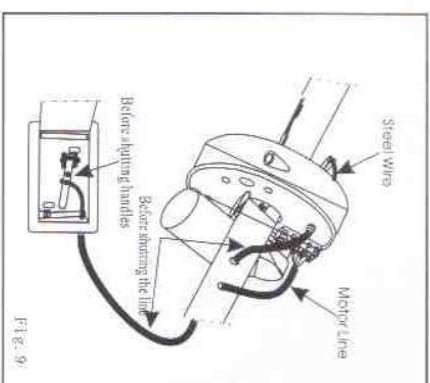

Fig. 9
3.12 From shut steel wire of line from from shut line pipe pull out, make steel wire have regular one of those's end of post from from shut pivot between Center bore and Right deviation, arm of underpart, put regular hole, clutch of arm into regular post, from shut line pipe suit again at steel wire, left end inject hole of pivot most pipe at the same time, and Then from shut line inject M8 ol on the right of the hole, promote from shut with hand line until right end emerge most in door-hinge, pull out it all before shutting the line, such as Fig. 9.
3.13 Large electrical machinery line connect on supporting of wiring end son of right side according to graphic presentation, inject another end M10 of on the right among the hole, promote line until right end emerge most in door-hinge with hand, pull out and all leave the line, such as Fig. 9.
3.14 From shut line and line regular and good guiding to from equal to the box and top management box office respectively electrical machinery have; Turn on from shut box with key from shut steel wire of line fix on handle, make the handle rotate 180 degrees; can answer on the manual switch door at this moment, unclamp handles, the steel wire goes back to contract, can't use the hand switch door, if incorrect, should revitalizer regular length of steel wire, until from shut handle can be used normally, such as Fig. 9.